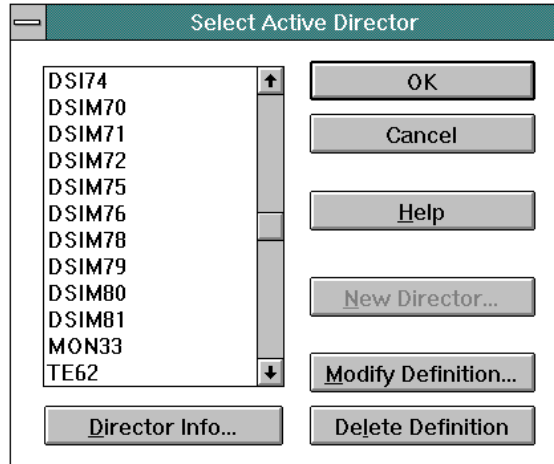

Figure 10-14. Select Active Director Dialog Box
8. Select the *Open Active Configuration Matrix* option from the *File* menu. The *Select Active Director* dialog box appears (Figure 10-14 on page 10-21).
13. Type a maintenance authorization password (default is **LEVEL002**) and click the *OK* button. The *Select Active Director* dialog box reappears (Figure 10-14 on page 10-21).